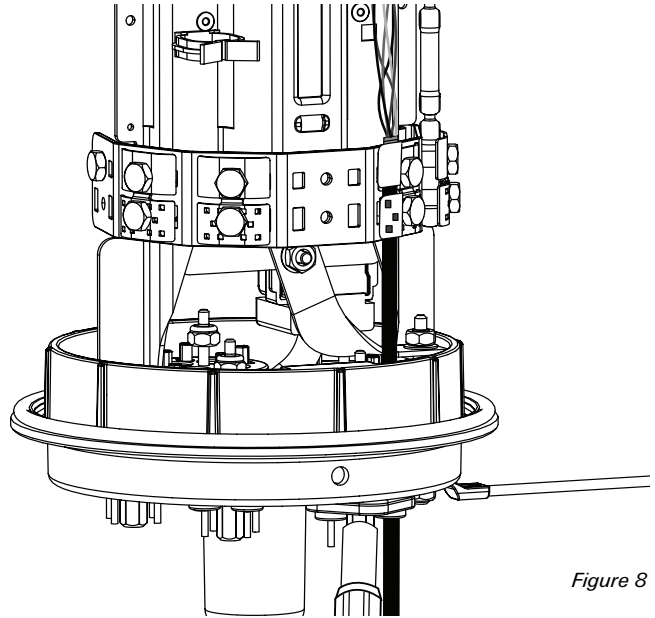

Figure 8
- After all drops are installed in the closure, tighten the compression bolts on all grommets until the bolts can no longer be turned using the 216 tool (25 in-lbs torque minimum). (Figure 8)